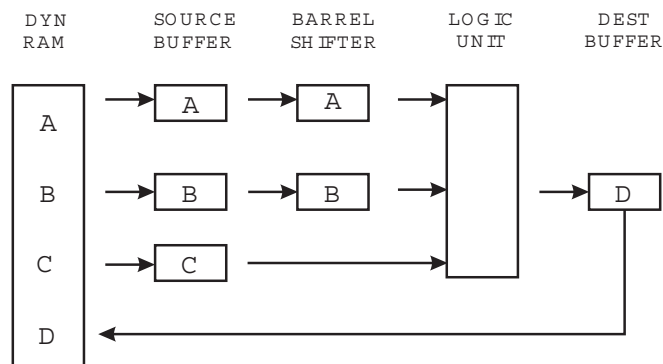

FIGURE 6.3. Blitter Block Diagram
The block diagram (Figure 6.3) for this device shows the DMA control and address bus logic. The output of each controller indicates the number of DMA channels driving the Register Address Encoder and RAM Address Generator.
The procedure for moving and combining bit-mapped images in memory received the name Bit Blit from a computer instruction that did block transfers of data on bit boundaries. These routines became known as Bit Blitters or Blitters. The Blitter DMA Controller is pre-loaded with the address and size of three source images (A, B, and C) and one destination (D) in the dynamic RAM (refer to Figure 6.3). These images can be as small as a single character or as large as twice the screen size. They can be full images or smaller windows of a larger image. After one word of each source image is sequentially loaded into the source buffer (A, B, C) they are shifted and then combined together in the logical unit to perform image movement, overlay, masking, and replacements. The result is captured in the destination buffer (D) and sent back to the RAM memory destination address.